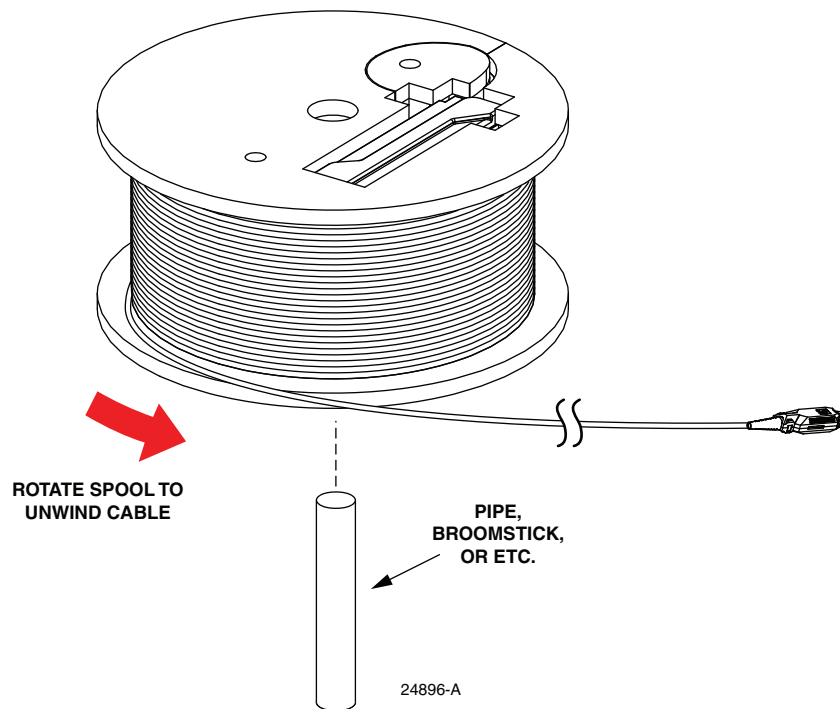

Figure 6. Using a Broomstick or Pipe for an Axle
6. Insert a broomstick, pipe, or etc., into the center hole in the foam spool to serve as an axle when unwinding the spool, as shown in Figure 6.